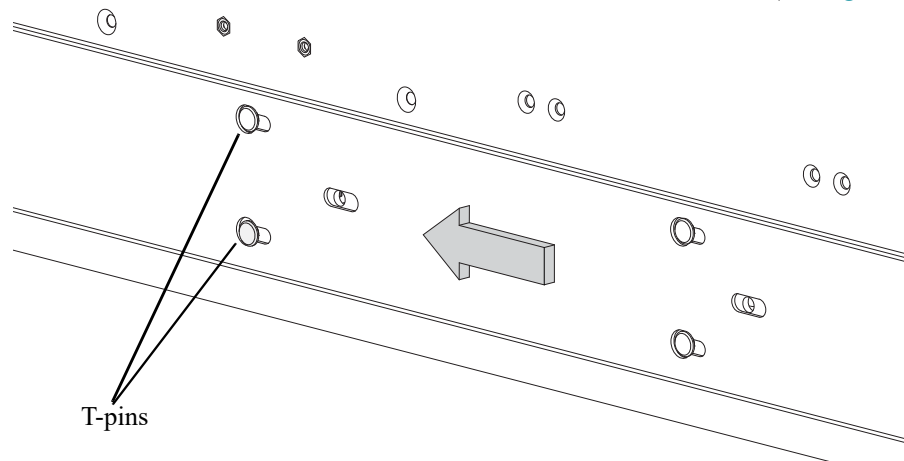

Figure 33 Locking inner rail over the T-pins
2. Sliding back the inner rail through the key holes to lock it against the T-pins (see Figure 33)
3. Insert the key holes present on the left inner rail into the T-pins present on the left sidewall of the enclosure, and slide the left inner rail towards the enclosure back until it locks itself into the slots (see Figure 33).
3. Insert the key holes present on the right inner rail into the T-pins present on the right sidewall of the enclosure, and slide the right inner rail towards the enclosure back until it locks itself into the slots (see Figure 33).